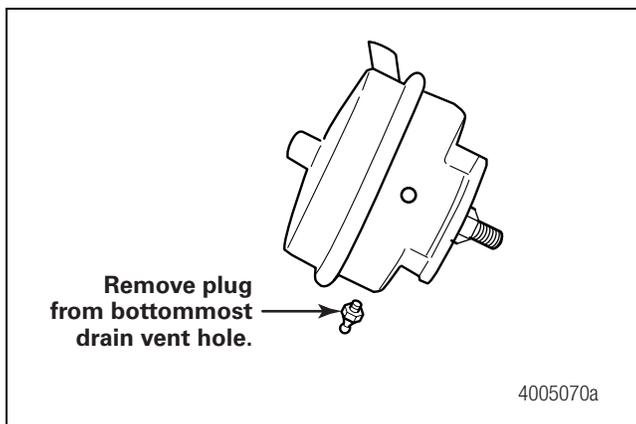
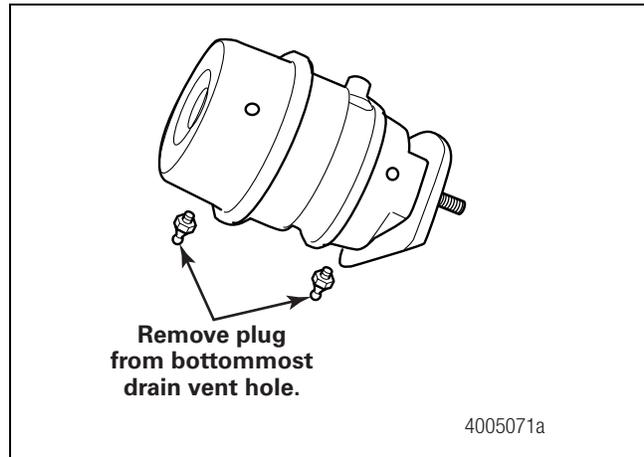

Figure 7.8
Figure 7.9
8. If breather plugs are supplied, locate the bottommost breather plug and remove it from the chamber. Figure 7.8 and Figure 7.9.